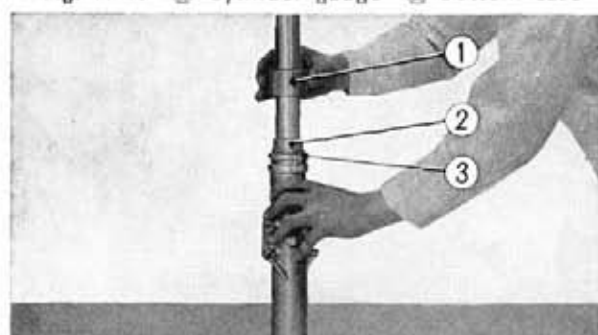

Fig. 11-19 ① Oil seal driving weight
2. Assemble the front fork pipe into the front fork bottom case and install the oil seal using the oil seal guide (Tool No. 07947-3290000). (Fig. 11-19)